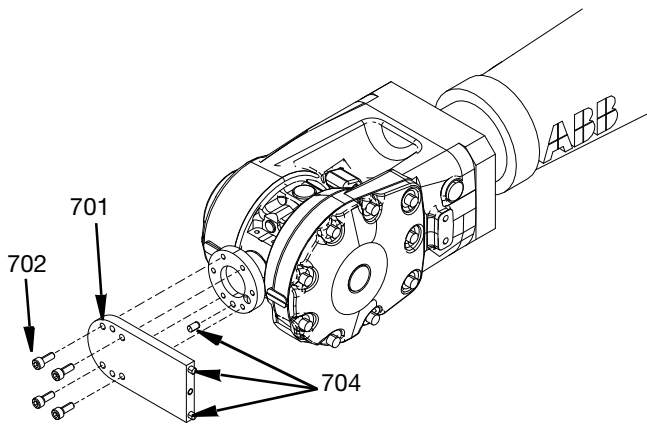

FIG. 7
1. Fasten the ABB calibration bracket (701) on the sixth axis of the robot using SCH cap screws (702) and 6mm dowel pin (704). See FIG. 7.